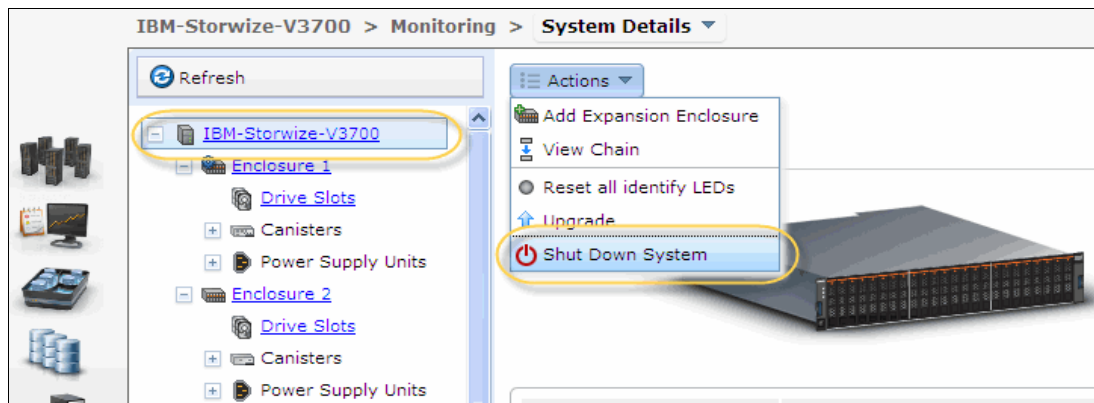

Figure 9-67 Power Down System option
2. Select the root level of the system detail tree. Click **Action** and select **Shut Down System**, as shown in Figure 9-67.